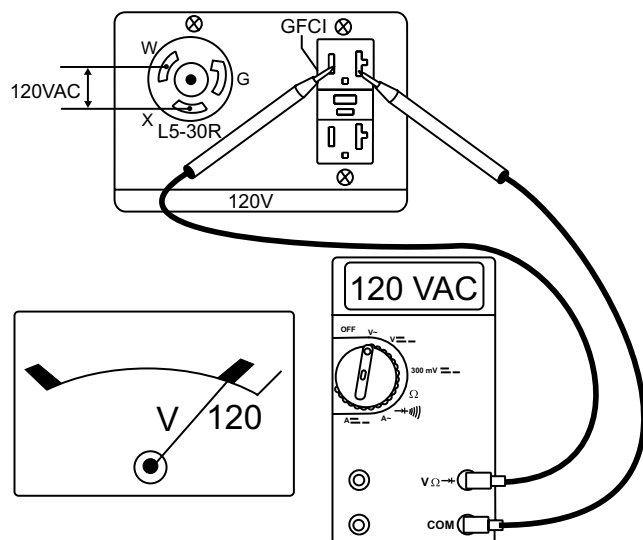

Figure 23. 120V Twist-Lock/GFCI Receptacles
- Read voltmeter on front panel of generator (Figure 23) and verify that 120 VAC is displayed. Using an external voltmeter as shown in Figure 23, verify that 120 VAC is present at the 120V twist-lock and GFCI duplex receptacles.